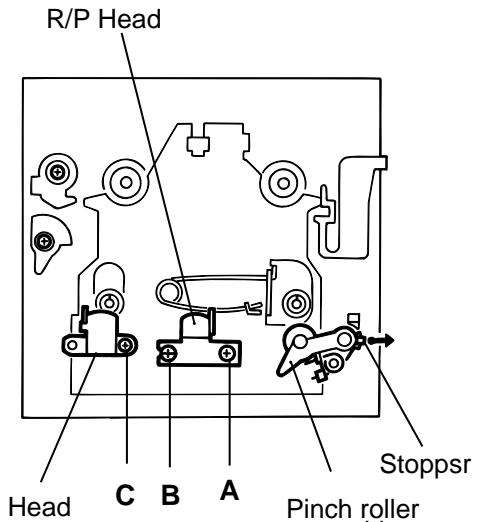

Fig.1
2. Remove the screw **B** on the left side of the R/P head.(Fig.1, Fig.2)
Remove the screw **C** fixing the erase head.(Fig.1)